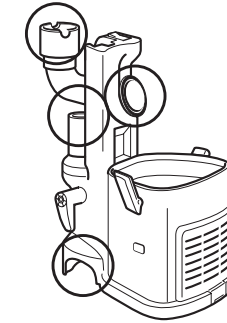

Fig. 29
- Remove the dust cup and wand and detach the pod from the motorized floor nozzle. Check all openings for any blockages. **(Fig. 29)**